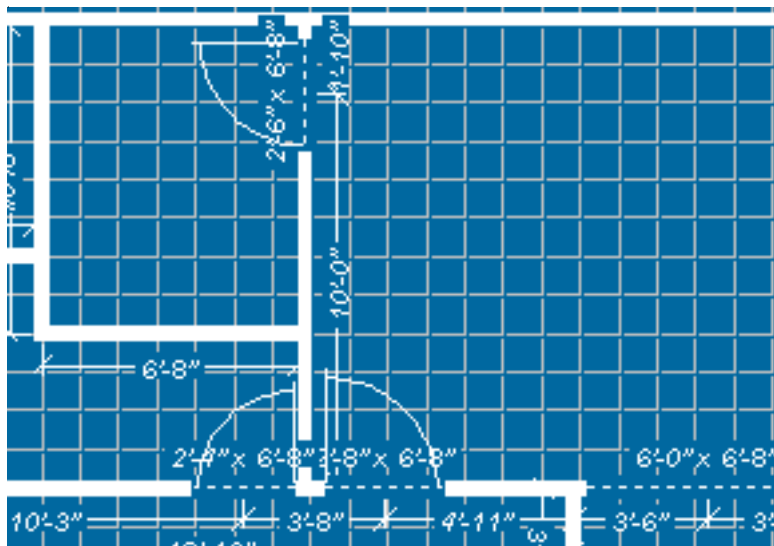

Figure 22
- Finish adding interior and exterior doors and openings to rooms as shown in **figure 22**.